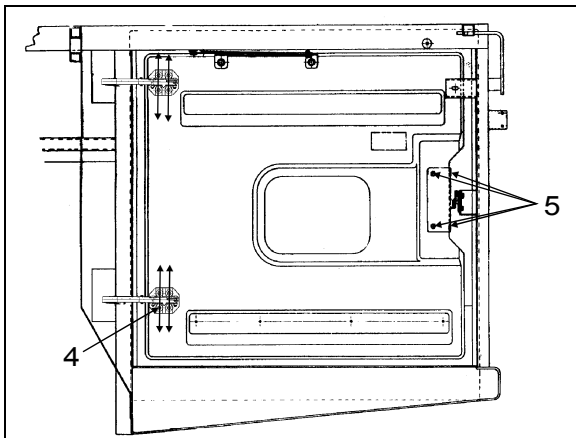

FIGURE 61: ENGINE COMPARTMENT R.H. DOOR
8. Loosen screws (4, Fig. 61).